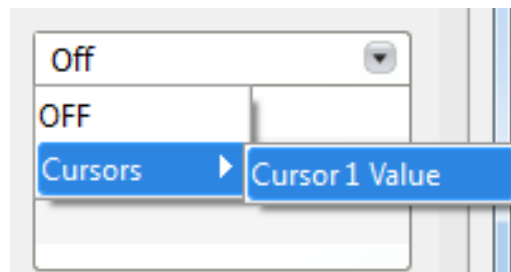

Figure 11 - set measurement to Cursor 1 Value
- $U_{Peak}$  : value of the peak voltage (peak max) (see Figure 11)
To attach a result display to a value displayed or calculated from the trace display, select the measurement from the result display (see Figure 11).